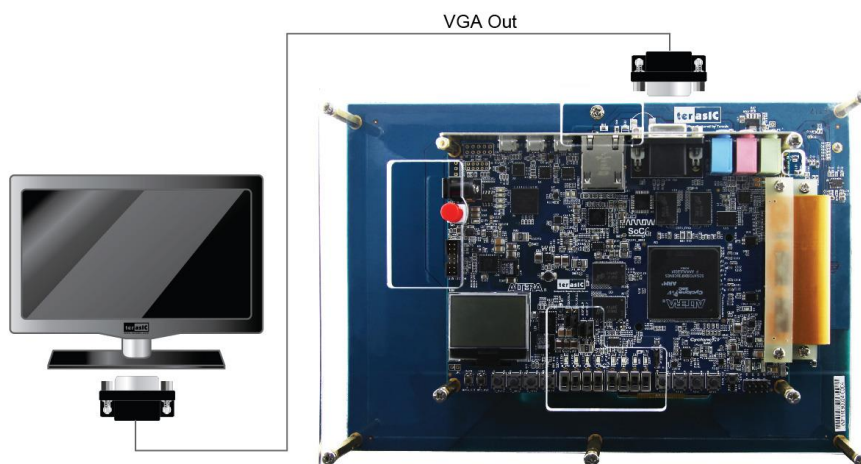

Figure 4-10 Setup for the VEEK VIP camera demonstration
- Connect the VGA output of the SoCKit board to a VGA monitor, as shown in **Figure 4-10**.